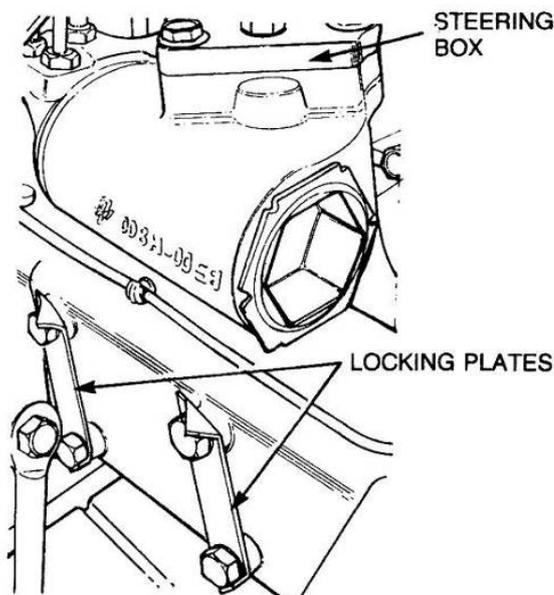

Figure 133 Removal of the Steering Box
- k. Bend back the tabs on the locking plates and remove the bolts securing the steering box to the chassis frame. Remove the steering box and discard the locking plates (Figure 133).